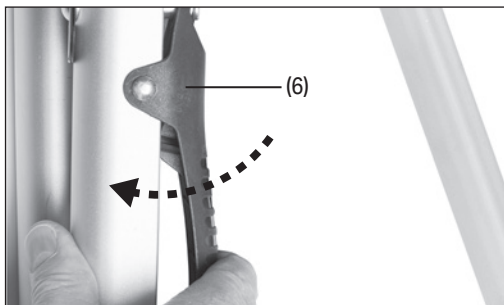

Fig. 21
7.4 Transportation (Fig.21 – Fig.24)